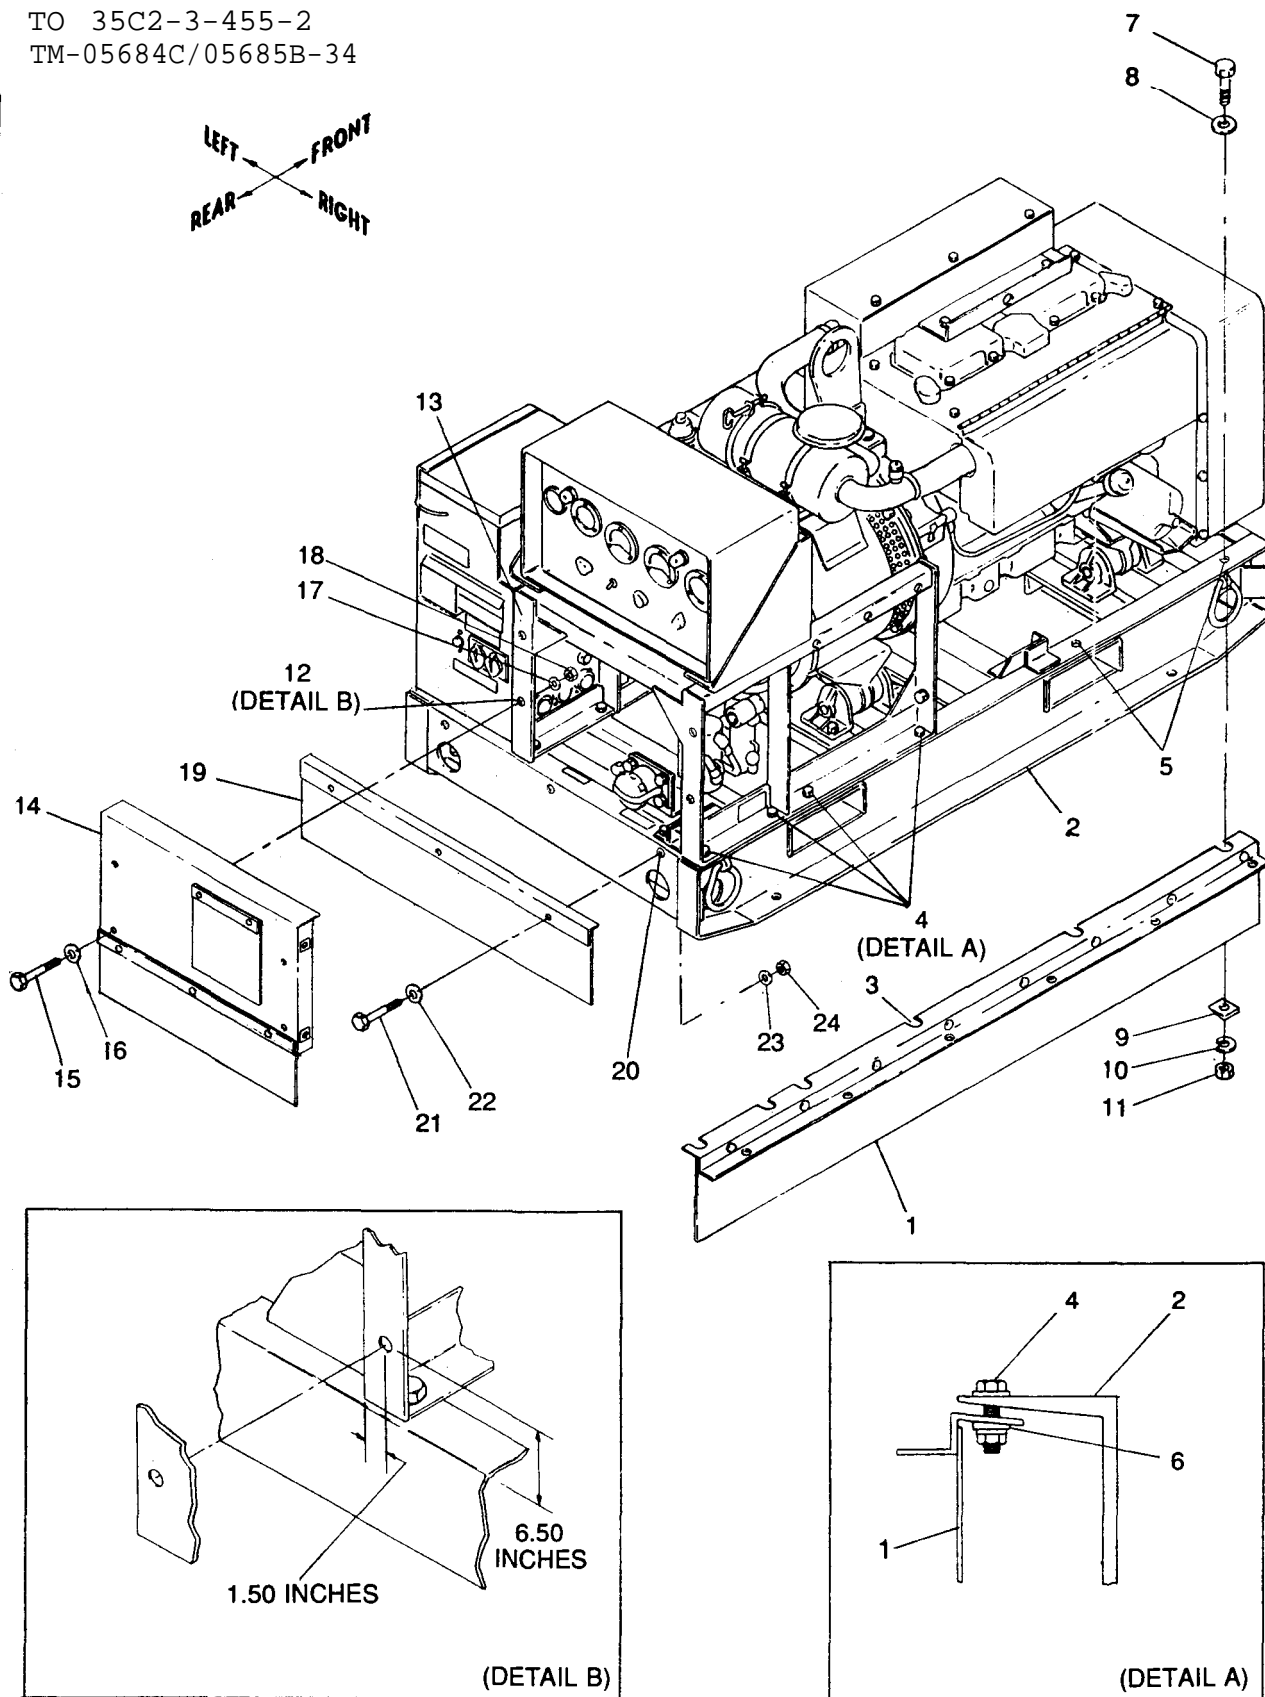

Figure 10-2. Installation of Right Support Assembly, Rear Panel Assembly, and Rear Flap Assembly
- (1) Refer to Operator and Organizational Maintenance Manual paragraph 3-24 and remove engine lifting bracket, shroud and blower housing.
- (2) Refer to figure 10-2 and locate right support assembly (1) on skid (2) . Align slots (3) in support assembly (1) with existing screw heads (4) and using support assembly (1) as template, mark the two additional mounting holes (5) .
- (3) Drill two 7/16 inch holes (5) into skid (2) for right support assembly (1) .
(1) Refer to figure 10-2, detail B and drill one 5/16 inch guide hole (12) in generator set control cubicle support frame (13) at location shown.
(2) Using rear panel assembly (14) as template, align drilled guide hole (12) with bottom left rear panel assembly hole and mark location of three remaining holes in generator set control cubicle support frame (13). Drill three 5/16 inch holes.
(3) Cut a 11 3/4 in. length of adhesive backed teflon tape (as listed in Table 10-1, item 3). Apply adhesive backed teflon tape to a clean right side surface of rear panel assembly (14) (surface with 2 captive nuts). Use hand pressure to remove air bubbles. Clear tape from captive nut openings.
(4) Refer to figure 10-2 to install rear panel assembly (14) to generator set control cubicle support frame (13) with four screws (15), eight washers (16 and 17) and four locknuts (18) (listed in table 10-1, item 3).
(5) Torque screws (15) to 16  $\pm$ 2 ft-lbs dry.
(1) Refer to figure 10-2 and using rear flap assembly (19) as template, center assembly on skid, resting rear flap assembly angle on top of skid (2). Mark mounting hole locations and drill three 5/16 inch holes (20) into skid (2).
(2) Install "rear flap assembly (19) to skid (2) with three screws (21), six washers (22 and 23) and three locknuts (24) (listed in table 10-1, item 4).
(3) Torque screws (21) to 16  $\pm$ 2 ft-lbs dry.